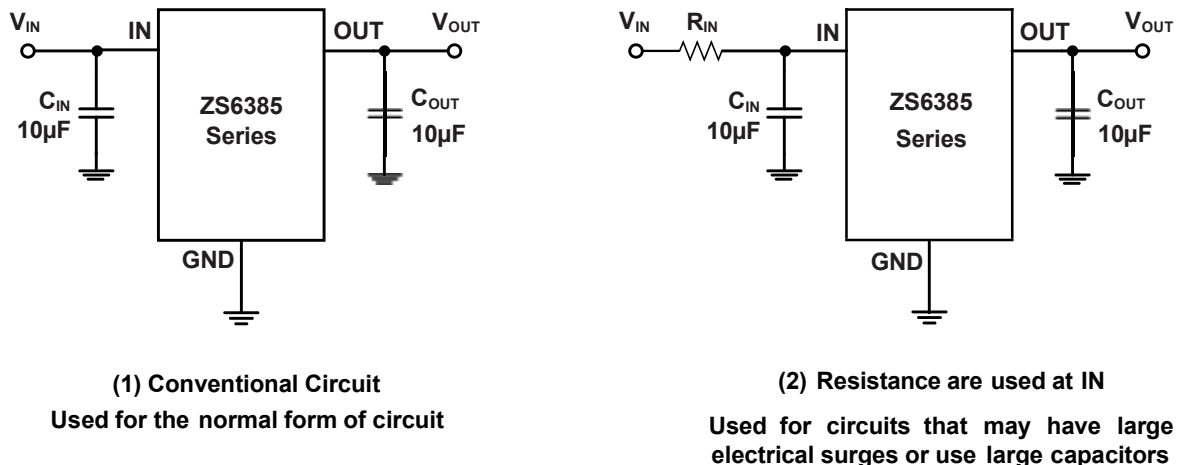
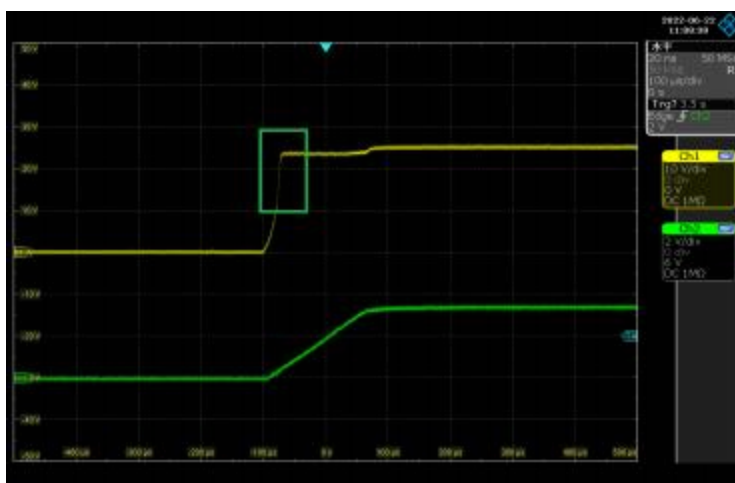

Figure 9-1. Fixed Output Regulator
Figure 9-3. Test with the Circuit that 5Ω
In the practical application of the circuit, place a resistor with appropriate resistance in series before the IN of the voltage regulator, which can help the voltage regulator share part of the energy in case of surge. The resistance value of the resistance should not be too large. The specific resistance value depends on the application of the circuit. Generally, the resistance value of this resistance does not exceed 20Ω. As shown in Figure 9-1-(2).
For the ZS6385 series, it is recommended that the input voltage should not exceed 20V and the peak voltage should not exceed 40V. **When the input voltage is greater than 20V, or the peak voltage that may be greater than 40V may appear in the practical circuit, it is recommended to adopt the circuit layout shown in Figure 9-1-(2) in the circuit design.**
The ZS6385 series can obtain better transient response with the help of output capacitance. However, if the output capacitor is relatively large, the surge current generated by the charging of the output capacitor will also be large at the moment of power on of the regulator, and the large surge current passing through the regulator may damage the internal circuit. When the output capacitance is large, adopting the circuit design shown in Figure 9-1-(2) will reduce the possibility of damage to the device due to large surge current to a certain extent. It is recommended that the selection of output capacitor should not exceed 20µF. **If the selection of output capacitor exceeds 20µF, it is recommended to adopt the circuit design in Figure 9-1-(2) to reduce the possibility of accidental failure of the device due to large surge current during power on.**
Figure 9-2 and Figure 9-3 show the impact of not using  $R_{IN}$  [Test circuit is shown in Figure 9-1-(1)] and using  $R_{IN}$  [Test circuit is shown in Figure 9-1-(2)] on suppressing surge voltage.
[Figure 9-1-(1)]
Resistance are used at IN [Figure 9-1-(2)]
As shown in Figure 9-2., when the input is powered on from 0 to 25V, a very high peak voltage (shown in the red part) is generated in front of the input terminal of the device, and the maximum peak voltage is far more than 25V. When  $R_{IN}$  is used, as shown in Figure 9-3., the peak voltage generated by power on is effectively suppressed (shown in the green part).
The ZS6385 series requires a capacitor of  $1\mu\text{F}$  or greater ( $10\mu\text{F}$  is recommended for  $C_{IN}$ ) to be connected between OUT and GND to maintain stability. Ceramic or tantalum capacitors can be used. The larger the capacitance, the better the transient and noise performance. However, when the input capacitance is large, the circuit shown in figure 9-1-(2) may be required. See *Large Output Capacitance* for details.